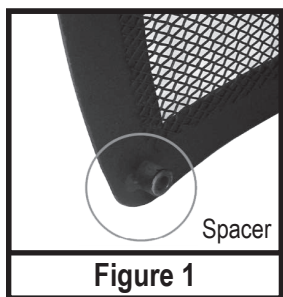
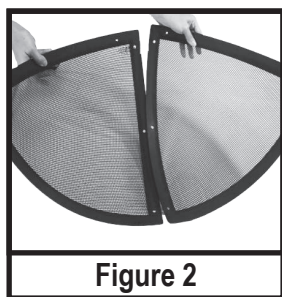
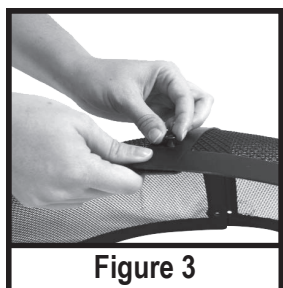

Figure 1
Figure 2
Figure 3
Ensuring the spacers face inward, [Figure 1] align the bolt holes of Outside Screens (B2) over Outside Screen (B1). [Figure 2] Loosely secure the screens by hand-tightening M6x12mm Bolt Sets (D). [Figure 3]